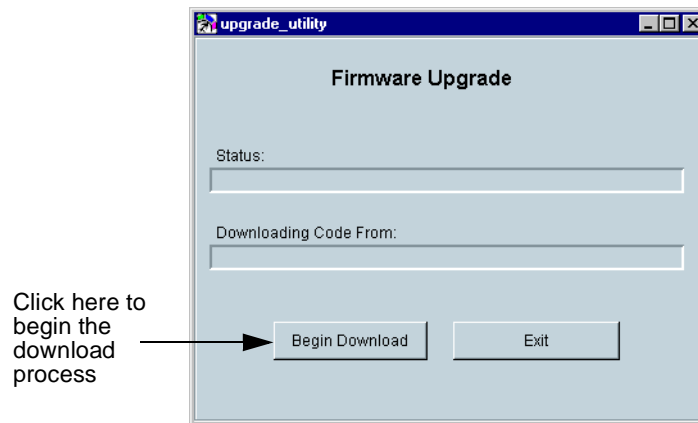

Figure 5-1. Firmware Upgrade Utility
1. Locate the executable file from the directory indicated in the “Readme” file on the CD. Start the utility to display the window below in Figure 5-1.